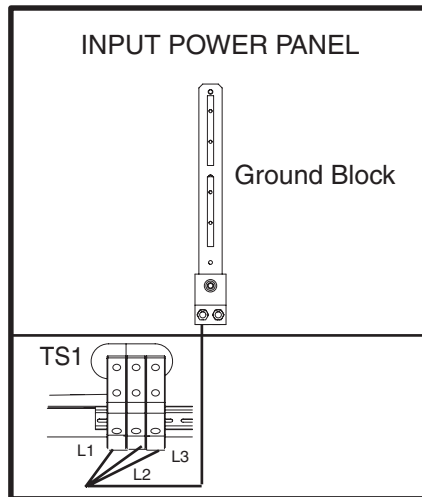
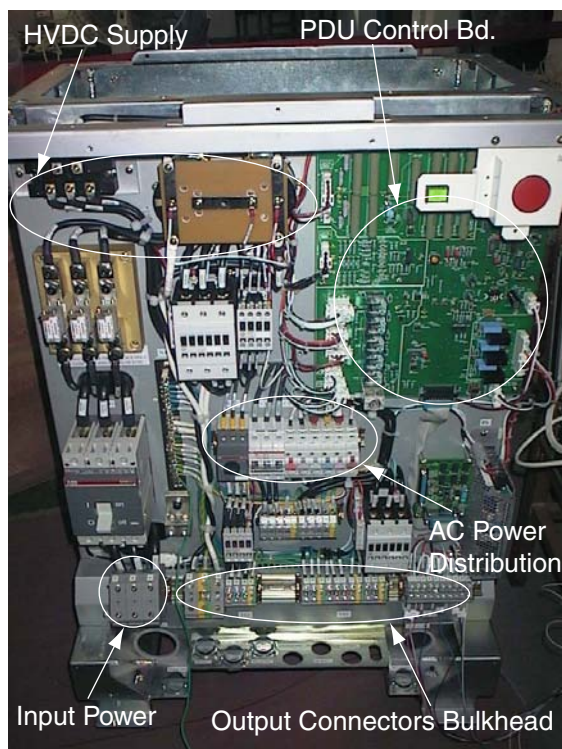

Figure 1-53 Input Power Panel Connections
Figure 1-55 PDU Area Locations
- 5.) Attach cables as shown in Figure 1-53 and Figure 1-55.